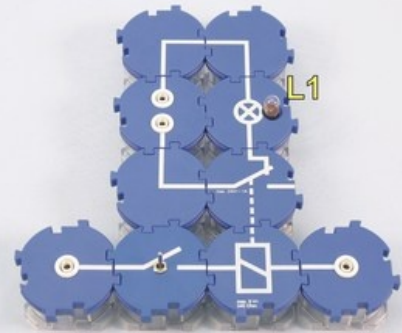
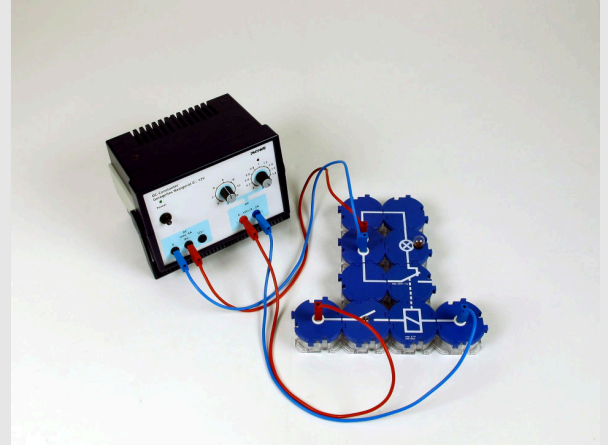

Fig. 1
Fig. 2
- Set up the experiment as shown in Fig. 1 and Fig. 2 with bulb L1 in the working circuit. The switch should be switched off. Set a DC voltage of 6 V for the control circuit and connect the working circuit to the AC voltage of 12 V~.